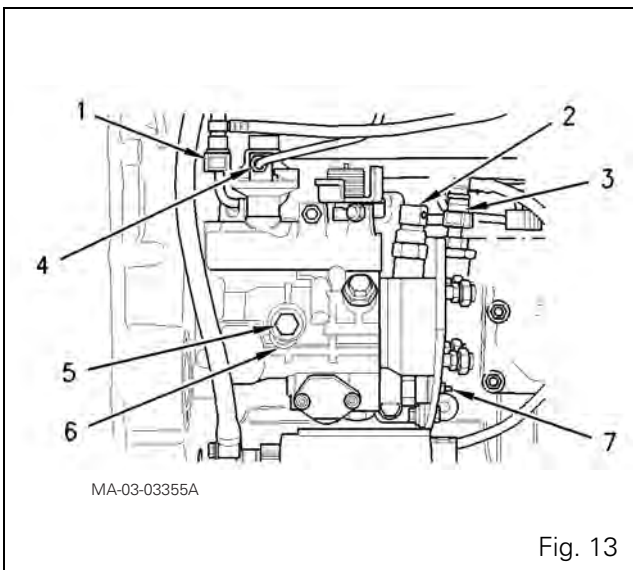
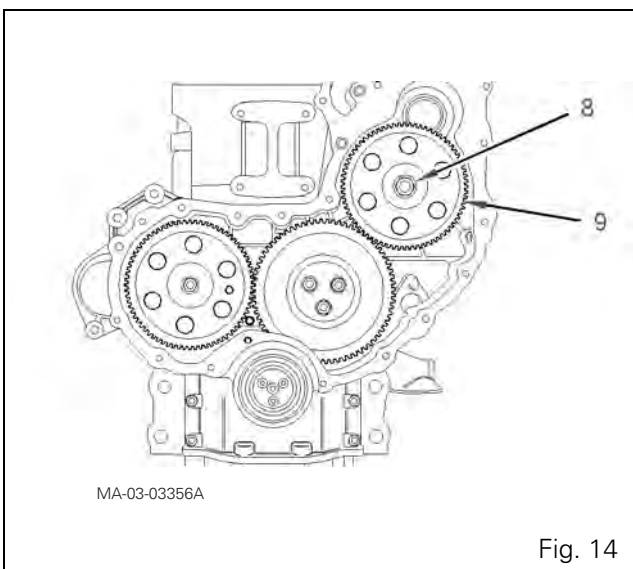

Fig. 13
Fig. 14
72. Loosen the lock screw (5). Turn the spacer (6) to allow the lock screw (5) to lock the pump pin. Turn the pump pin anti-clockwise until slight resistance is felt (Fig. 13).
74. Disconnect the fuel return line (1) (Fig. 13).
75. Disconnect the fuel supply line (3).
76. Disconnect the connector (2) of the injection timing solenoid (7).
77. Remove the nut (8) and retaining washer from the injection pump gear (Fig. 14).
78. Extract the pump gear (9) using a suitable puller.